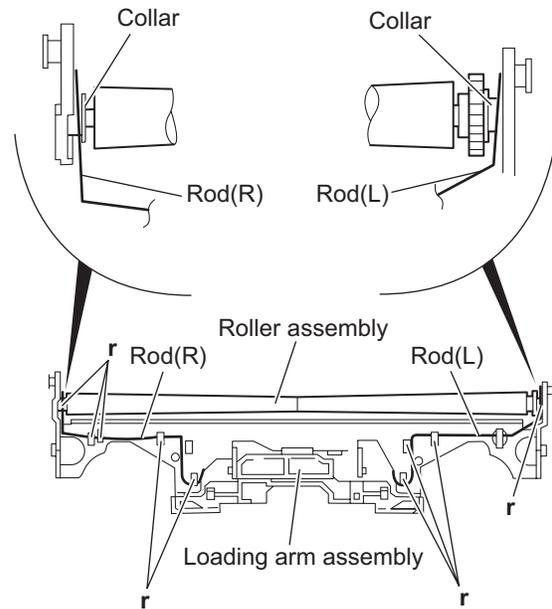

Fig.15
3.2.8 Removing the rod (L), rod (R) and roller assembly (See Figs.15 and 16)
- From the bottom side of the loading arm assembly, release the rod (L) and (R) from the joints r. (See Fig.15.)
After attaching the roller assembly to the loading arm assembly, attach the rod (L) and (R). Then attach the rods to the right and left collars of the roller assembly. (See Fig.15.)